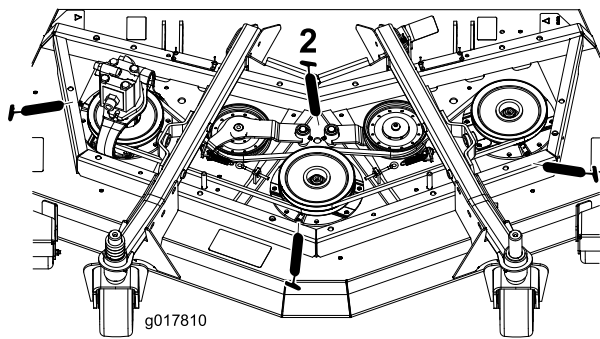

Figure 66
- 3 spindle-shaft bearings—located under the pulley (Figure 66)
- 2 idler-arm-pivot bushings (Figure 66)